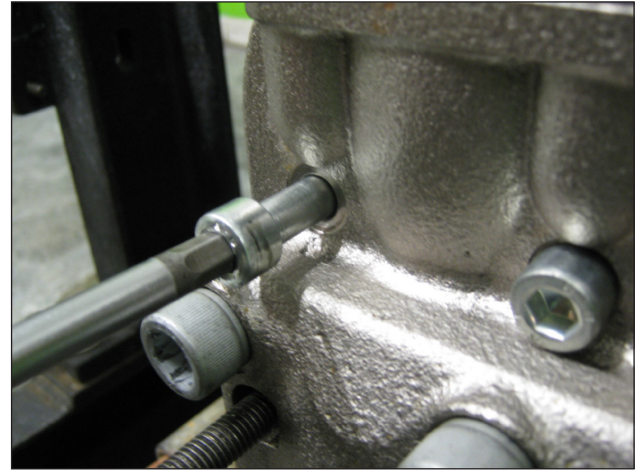

Fig. 26
A) Unscrew the M10x110 head fixing screws as indicated in (Fig. 26).